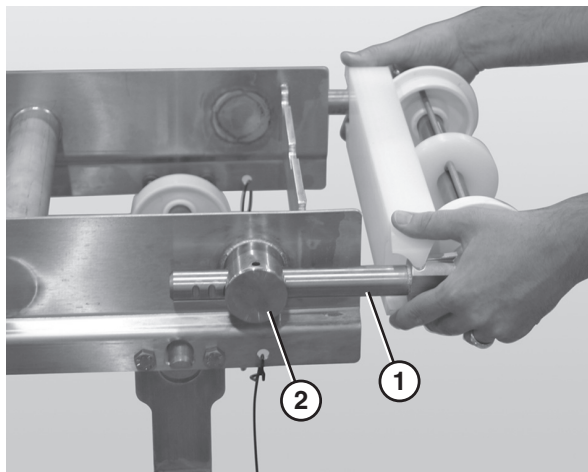

Figure 16
1. Slide the bearing shafts (**Figure 16, item 1**) into the take up blocks (**Figure 16, item 2**).